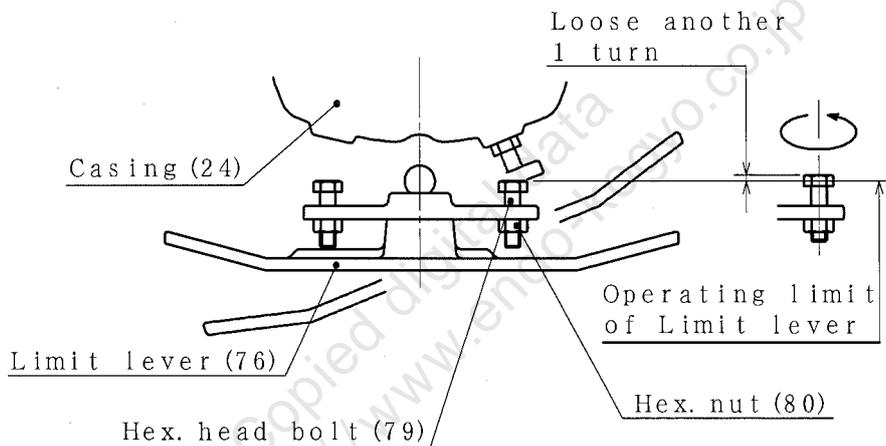

Fig. 3
9. Adjust of Operating Limit of Control Lever (See Fig. 3)